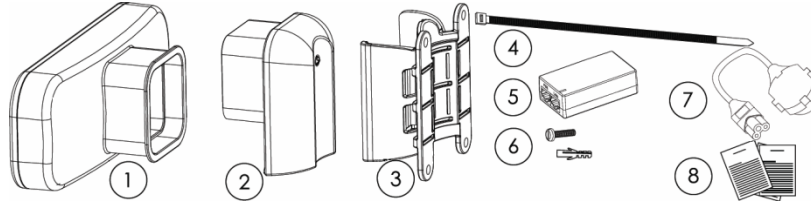

Figure 1 – Package Contents
APC Propeller 2 and APC Propeller 5 are integrated with a built in antenna, therefore the polarizations depends on the mounting position of the device (item 1 in the *Figure 1 – Package Contents*) on the insert bracket (item 2 in the *Figure 1 – Package Contents*).
Step 2. Insert the UTP cable into the APC unit's ETH port through the insert bracket (tem 2 in the *Figure 1 – Package Contents*) and as displayed in the picture below:
Step 3. Connect unit with the insert bracket (item 2 in the *Figure 1 – Package Contents*):
- Step 2.** Attach APC mounting bracket (item 3 in the *Figure 1 – Package Contents*) to the pole using plastic clamps (item 4 in the *Figure 1 – Package Contents*) as displayed below:
Step 2. Attach APC mounting bracket (item 3 in the *Figure 1 – Package Contents*) to the wall using screws (item 6 in the *Figure 1 – Package Contents*) as displayed below: